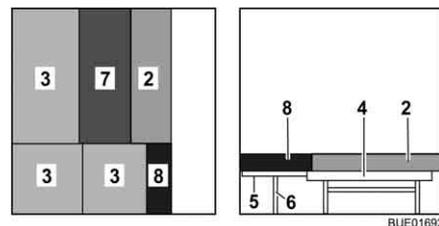

Fig. 112 After conversion
- Place the additional cushion (Fig. 112,8) on the bedding box extension (Fig. 112,5).
- Place the additional cushion (Fig. 112,7) on the table (Fig. 112,4).
- Place the back cushion (Fig. 112,2) on the table in front of the additional cushion (Fig. 112,7).